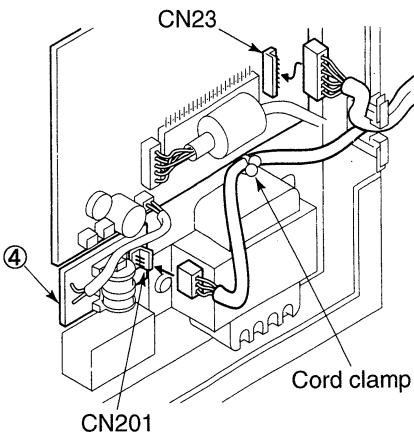

Fig.6
2. Insert the lead wires of relay unit ① into connector (CN201) on mini P.C. board ④ and CN23 of the main P.C. board. (Fig.6)